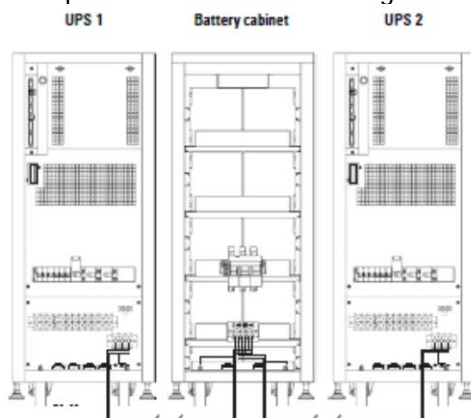

Fig.24. Example of connection of two UPSs in parallel and a common battery set.
- The connection of each M4T Evolution with the battery cabinet must be done with a cable, by connecting one side to terminals (X11), (X23) and (X12) of the UPS and the other one to the terminals of the battery module. Always respect the stated polarity on the label of each element and this manual, as well as the colour of the cables (red for positive, black for negative, blue for middle tap (N) and green-yellow for earth bonding), see Fig. 24.